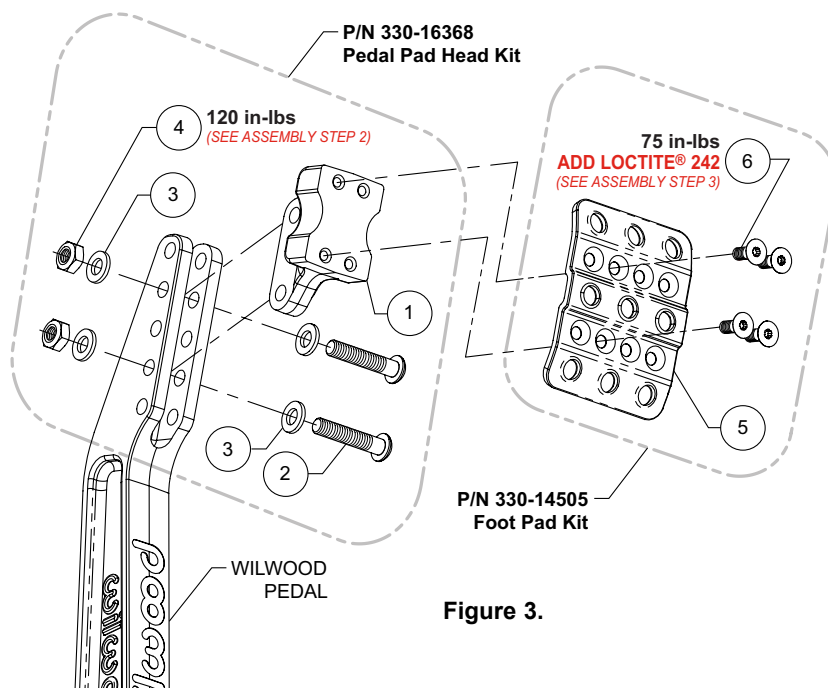
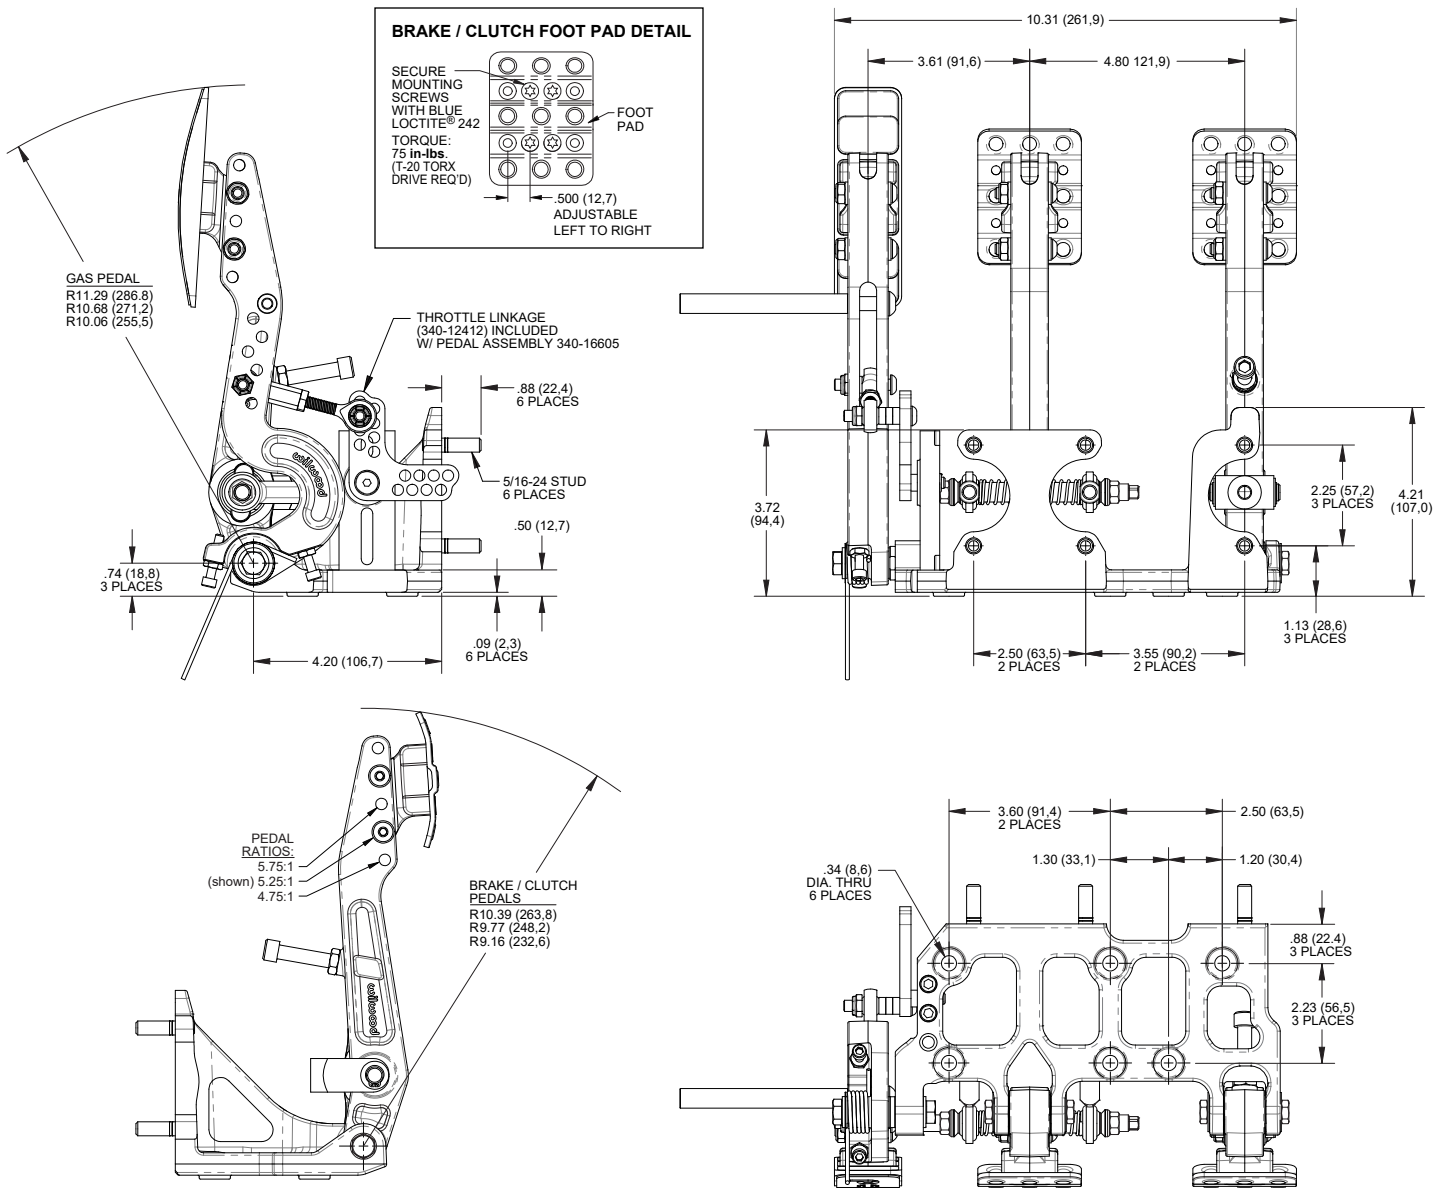

Figure 3.
Figure 4. Forward Mount Triple Pedal Assembly, Physical Dimensions, 4.75:1 to 5.75:1 Adjustable Ratios (p/n's 340-16604 & 340-16605)
Refer to page 6 and Figure 4 for vehicle installation instructions and mounting dimensions.
NOTE: Refer to Figure 3 on page 5 for detailed instructions on assembling the pedal pad heads and foot pads
STEP 1 Install the pedal pad head (1) into the “fork” of the pedal arm in the desired location as shown in Figure 3. Secure in place using bolts (2), washers (3), and locknuts (4).
STEP 2 Torque locknuts (4) to value indicated in Figure 3.
STEP 3 Orient foot pad (5) as shown in Figure 3. Pad may be installed in three different positions as shown in Foot Pad Detail of Figure 4, page 6 (not applicable to throttle foot pad). Secure to pedal head (1) using four T-20 drive Torx screws (6). Apply blue *Loctite*® 242 to the threads and torque to value indicated in Figure 3.
STEP 4 Apply grip tape sticker (8) to throttle foot pad (7) (both not shown) after attaching foot pad to pedal head.
•Mount the final pedal assembly to the floor using six .34" through holes as shown in Figure 4. Attach the pedal assembly to sturdy beams or plates with six 5/16" bolts. Pedal assembly must be rigidly attached to frame and not deflect under heavy pedal forces. **NOTE:** Pedals must be free from obstructions over their entire range of motion. Allow enough space so balance bar adjustments can be made and master cylinders are accessible.